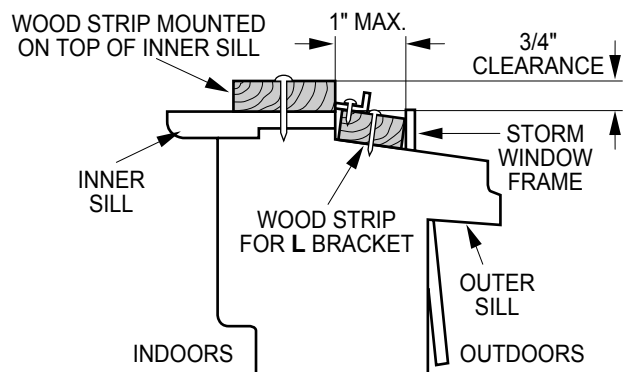

Figure 4
2. If storm window presents interference, fasten a 2" wide wood strip to the inner window sill across the full width of the sill. The wood strip should be thick enough to raise the height of the window sill so that the unit can be installed without interference by the storm window frame. See Figure. 4. Top of wood strip should be approximately 3/4" higher than the storm window frame (STORM WINDOW FRAME) or wood strip (OUTDOORS) to help condensation to drain properly to the outside.
3. Install a second wood strip (approximately 6" long by 1 1/2" wide and same thickness as first strip) in the center of the outer sill flush against the back off the inner sill. This will raise the L bracket as shown Figure. 4.